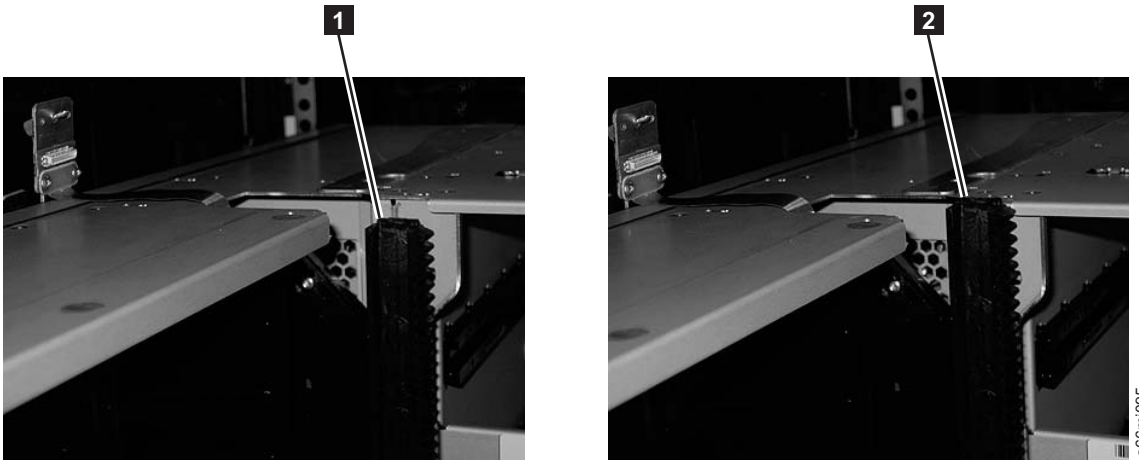

Figure 12-5. Gear racks (down and up)
1. Ensure that the front and rear gear racks are in the upper position. (see **2** in Figure 12-5 on page 12-8.